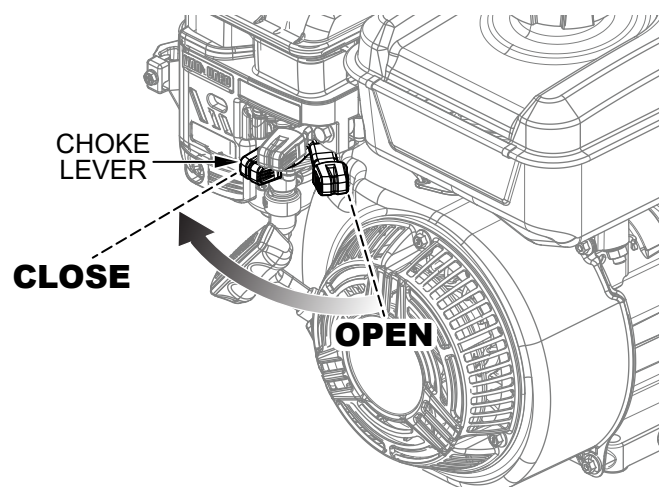

Figure 9. Choke Lever (Closed)
2. If starting a cold engine, place the **engine choke lever** in the **CLOSED** position (Figure 9).